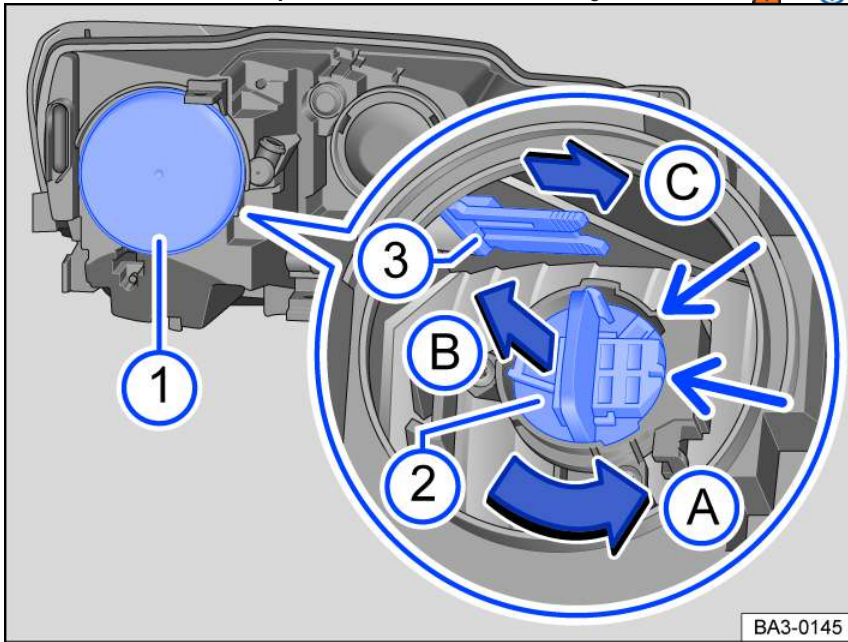

Fig. 127 In the engine compartment: Rear view of the left-side headlight.
3. Remove the rubber cover *fig. 127* (1) on the rear side of the headlight.
4. Turn the bulb holder *fig. 127* (2) in the direction of the arrow (arrow (A)) until the retaining tab of the bulb holder is situated in the recesses in the bulb housing (small arrows). Then remove the bulb holder (2) toward the rear (arrow (B)).
6. Insert the bulb holder *fig. 127* (2) into the headlight and turn it in the opposite direction of the arrow (arrow (A)) as far as it will go.
7. Fit the rubber cover *fig. 127* (1) on the rear side of the headlight.
3. Remove the rubber cover fig. 127  on the rear side of the headlight.
4. Remove the bulb holder fig. 127  in the direction of the arrow (arrow .
6. Insert the bulb holder fig. 127  into the headlight in the opposite direction to the arrow (arrow  and push it all the way in.
7. Fit the rubber cover fig. 127  on the rear side of the headlight.